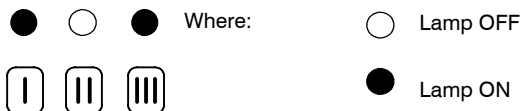

Fig. 47
- 11 Press the reset button C repeatedly (4 times) until the lamps E give the indication as in Fig. 47 (ignition pressure adjustment mode).